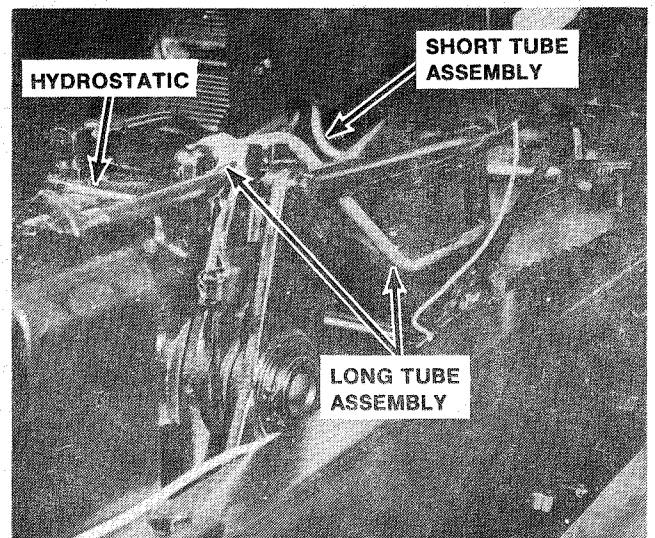

Figure 2
4. Position long oil tube assembly as shown in Figures 2 and 3. This tube runs along the right side of steering column.